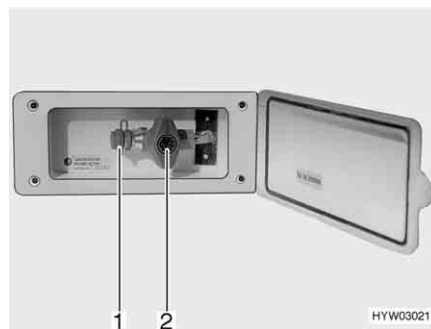

Fig. 157 External gas connection (gas isolator tap closed)
The external gas connection (Fig. 157) is located on the right-hand side of the vehicle.
- Connect the external gas device to the connection point (Fig. 157,1).
- Open the gas isolator tap (Fig. 157,2).